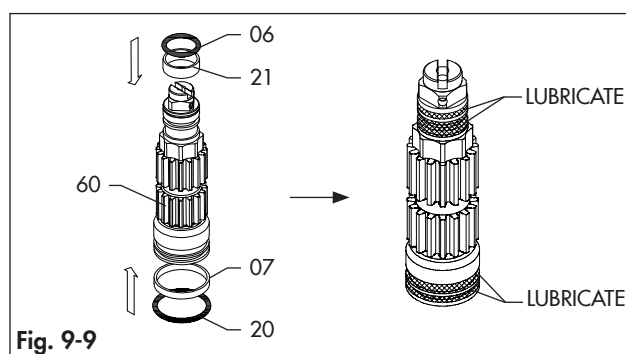
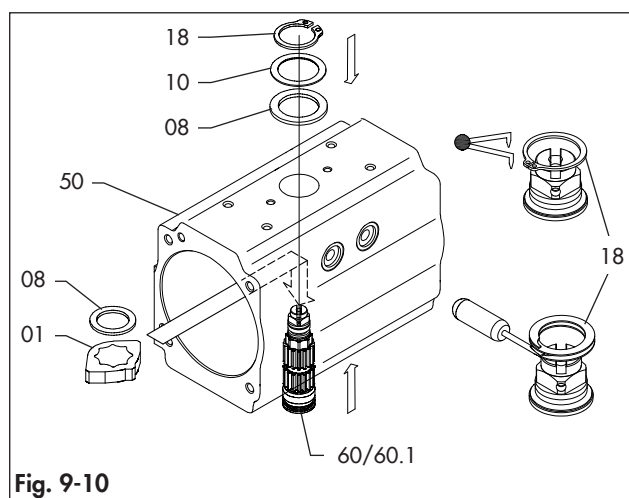
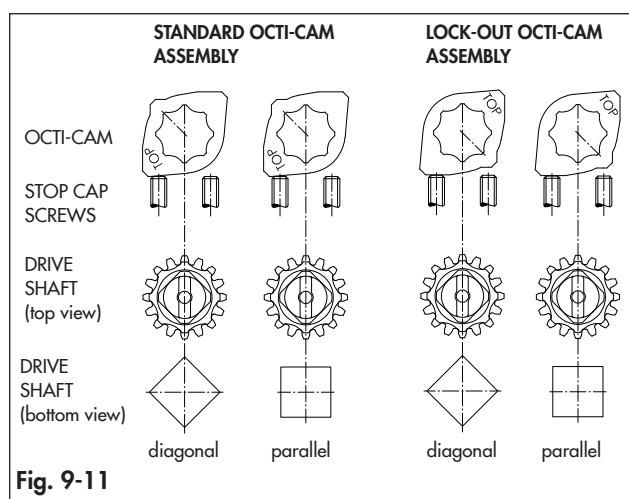

Fig. 9-9
Fig. 9-10
Fig. 9-11
Refer to Fig. 9-1, Fig. 9-9, Fig. 9-10 and Fig. 9-11.
- Place the drive shaft top bearing (06) and bottom bearing (07).
- Lubricate and place the drive shaft top o-ring (21) and bottom o-ring (20).
- Lubricate the external surface of the bearings and o-rings placed onto the drive shaft (60/60.1) as per the Fig. 9-9.
- Insert partially the drive shaft (60/60.1) into the body (50). (Fig. 9-9)
- Place the octi-cam (01) through the body (50) onto the drive shaft (60/60.1). Refer to the Fig. 9-11 for the correct placement of the octi-cam (01) depending on the actuator assembly configuration.
- Place the internal thrust bearing (08).
- Insert completely the drive shaft (60/60.1) into the body (50).
- Place external thrust bearing (08) and thrust washer (10).